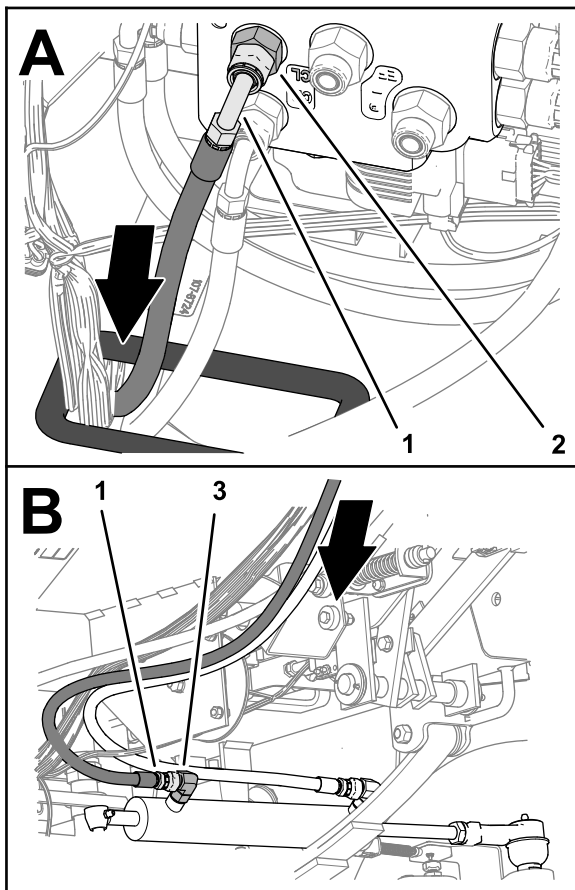

**Figure 121**
3. Remove the 2 O-ring in the face 90° fittings in the extend and retract ports of the steering cylinder (Figure 121).
4. Install a 2 new O-ring 9.2/1.8 mm (0.364/0.070 inch) into the groove of the 90° fittings (Figure 121).